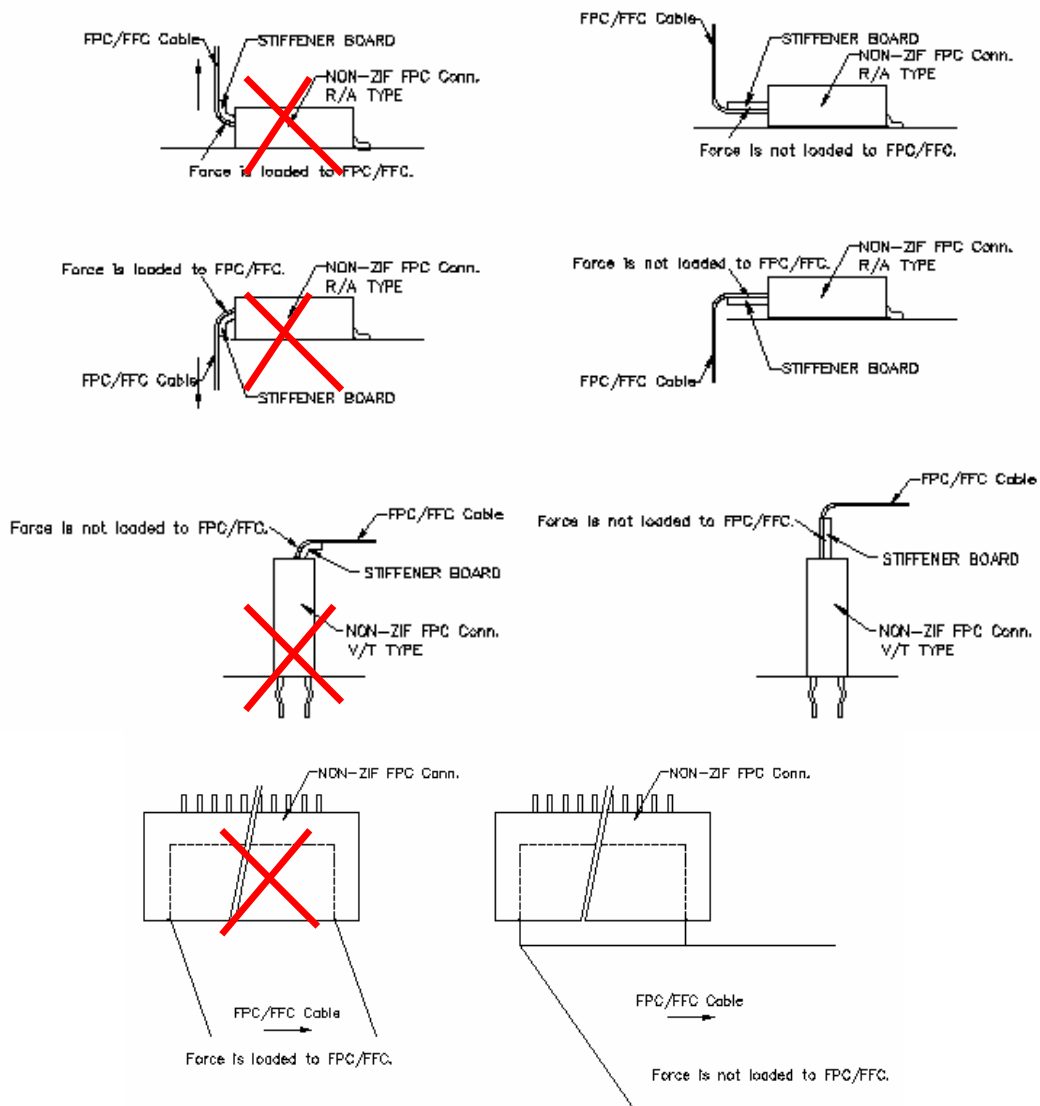

Figure 3.
- Do not apply any forces affecting soldered joints. Do not apply upward pull-force to the FPC/FFC close to the connector. (see figure 3).
- If necessary, please fix the FPC/FFC directly on the chassis. Also, please avoid pulling the FPC/FFC vertically or twisting the FPC back and force horizontally while it is inserted in the connector(see figure 3).
- Forming processing is conducted to FPC so as not to load force to connector. (see figure 3).